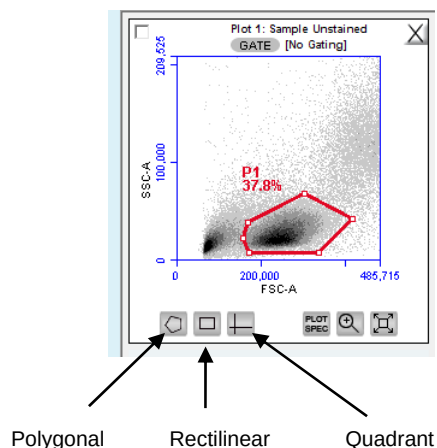

Figure 3-7 Polygonal gating tool was used to draw P1 on the 2D plot above. Other available gating tools are Rectilinear and Quadrant.
3. Choose the **Polygonal** gating tool and draw a region, P1 (Figure 3-7). Left-click on the mouse to anchor each vertice; double-click to close the polygon. The percentage of cells within P1 for that plot appears on the screen automatically. There are two other options available for drawing gating regions, the **Rectilinear** and **Quadrant** gating tools. These tools will be used in other steps of this tutorial.